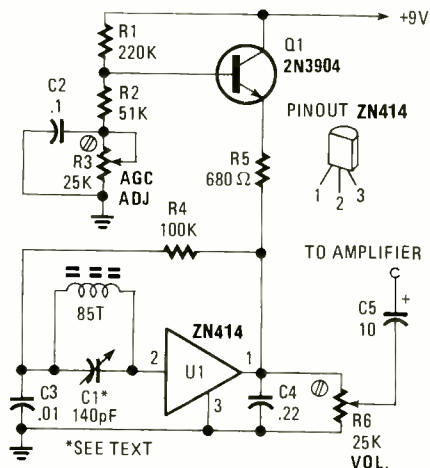

Fig. 3. The heart of the TRF Radio is Ferranti's ZN414 single-chip radio, which contains three stages of RF amplification and a detector in a TO-92 package.
**TRF Radio.** This circuit uses the Ferranti ZN414 single-chip radio, which contains three stages of RF amplification and a detector in a TO-92 package. Only a few additional components are required. (See Fig. 3.) The only precautions in building the circuit are to keep lead lengths as short as possible, especially at the input of the ZN414 and place the output-coupling capacitor (.22 μF) close to pin 1 of the device.